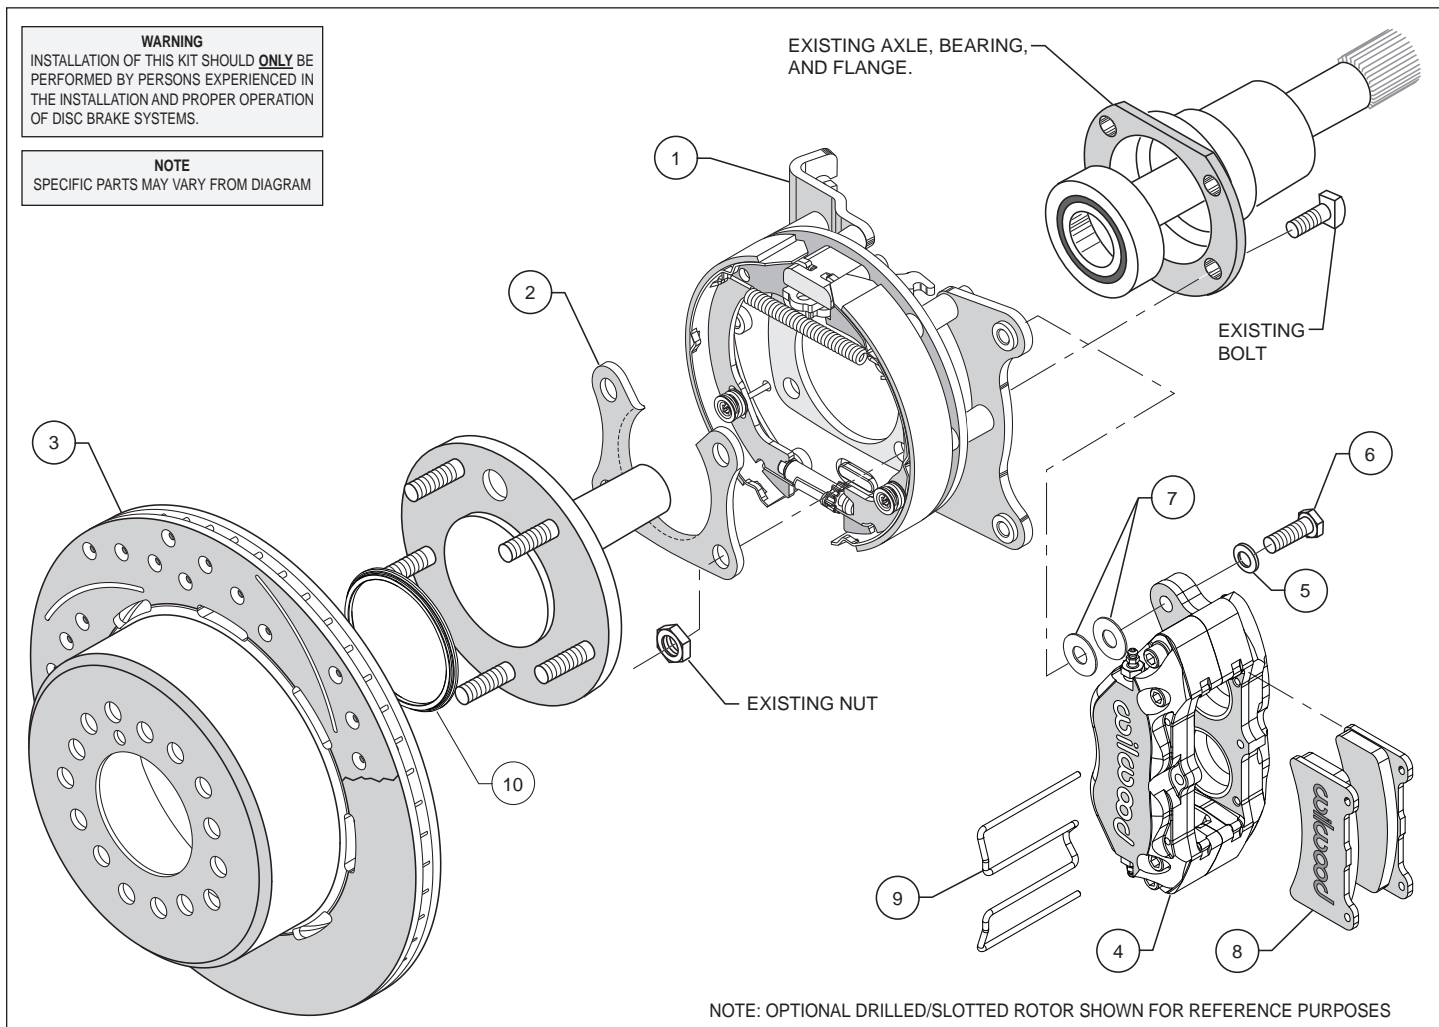
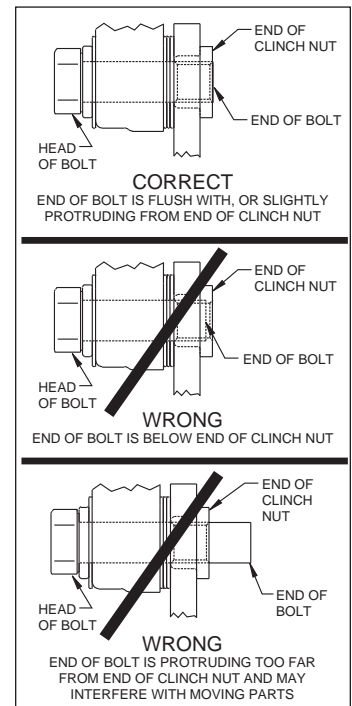

Figure 1. Typical Installation Configuration
Figure 5. Clinch Nut Engagement Diagram
Assembly Instructions (numbers in parenthesis refer to the parts list, and Figure 1 on the preceding pages): **CAUTION:** All mounting bolts must fully engage clinch nuts. Be sure to check that all bolts are either flush or protruding through flanged side of clinch nut after shimming, Figure 5.
- Orient the bracket assembly (1) as shown in Figure 1 and Photo 1 and slide it onto the axle. Insert the axle and bracket into the axle housing. Ensure that the bracket assembly backing plate fits flush against the axle housing flange.
- Install the bearing retainer (2) with the opening pointing upward and the lip facing inward (toward the bearing), as shown in Figures 1 and 4, and Photo 2. Secure retainer and bracket assembly to the axle housing flange using the Original Equipment Manufacturer (OEM) bolts and nuts, Figure 1. Apply red *Loctite*® 271 to the OEM bolt threads and torque to OEM specifications.
- Align the correct hole pattern in the rotor/hat with the stud pattern on the axle flange and slide into place, Figure 1 and Photo 3. **NOTE:** The rotor/hat must fit flush against the axle flange or excessive rotor run out may result. Install three lug nuts (finger tight) to keep the rotor/hat assembly in place while continuing with the installation. **NOTE:** Some OEM and after market axles come with stud sizes larger than 0.50" diameter. Verify stud size and have a qualified machine shop drill the bolt circle of the hat/rotor to the correct stud size, if necessary.
- NOTE:** Please reference the caution statement at the beginning of the assembly instructions. Mount the caliper (4) onto the caliper mounting bracket (1) using bolts (6) and washers (5), as shown in Figure 1. Initially place two .035" thick shims (7) on each bolt between the caliper and the bracket, Photo 4. Temporarily tighten the mounting bolts and view the rotor (3) through the top opening of the caliper. The rotor should be centered in the caliper, Photo 5. If not, adjust by adding or subtracting shims between the bracket and the caliper. Always use the same amount of shims on each of the two mounting bolts. **NOTE:** The end of each bolt must be flush with or slightly protruding from the head of the clinch nut, as shown in Figure 5. If necessary place spare shims between washer (5) and caliper mounting ear to achieve the proper clinch nut engagement. Once the caliper alignment and clinch nut engagement are correct, remove the bolts one at a time, apply red *Loctite*® 271 to bolt threads, and torque to 40 ft-lb.